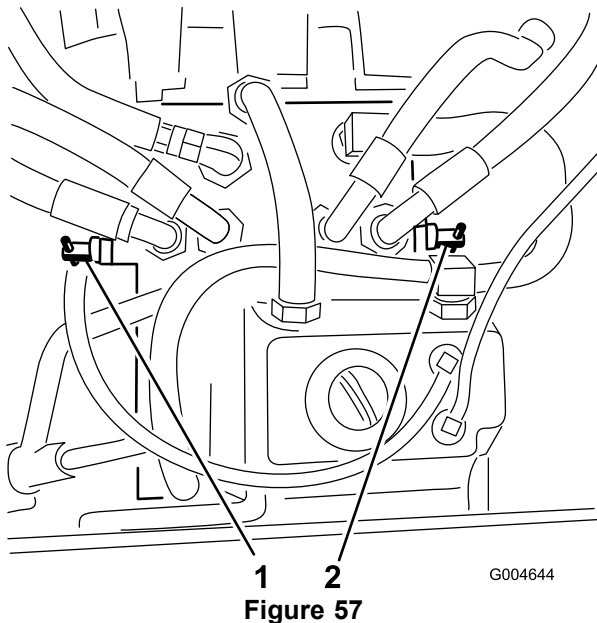

Figure 57
3. Rotate each by-pass valve counterclockwise 1 turn (Figure 57).
Rotate each by-pass valve clockwise 1 turn and hand tighten them (torque of approximately 71 in-lb (8 N-m) (Figure 57).